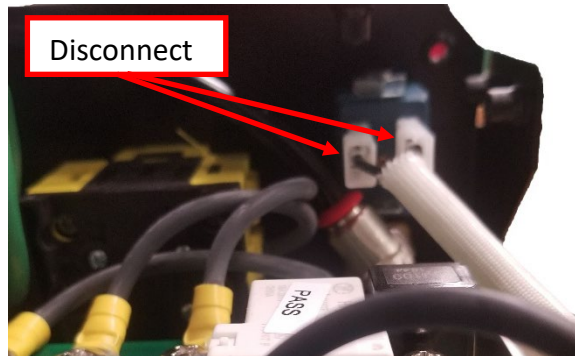

Figure F.2
A.2. Label and disconnect the following connections, refer to Figure F.2.